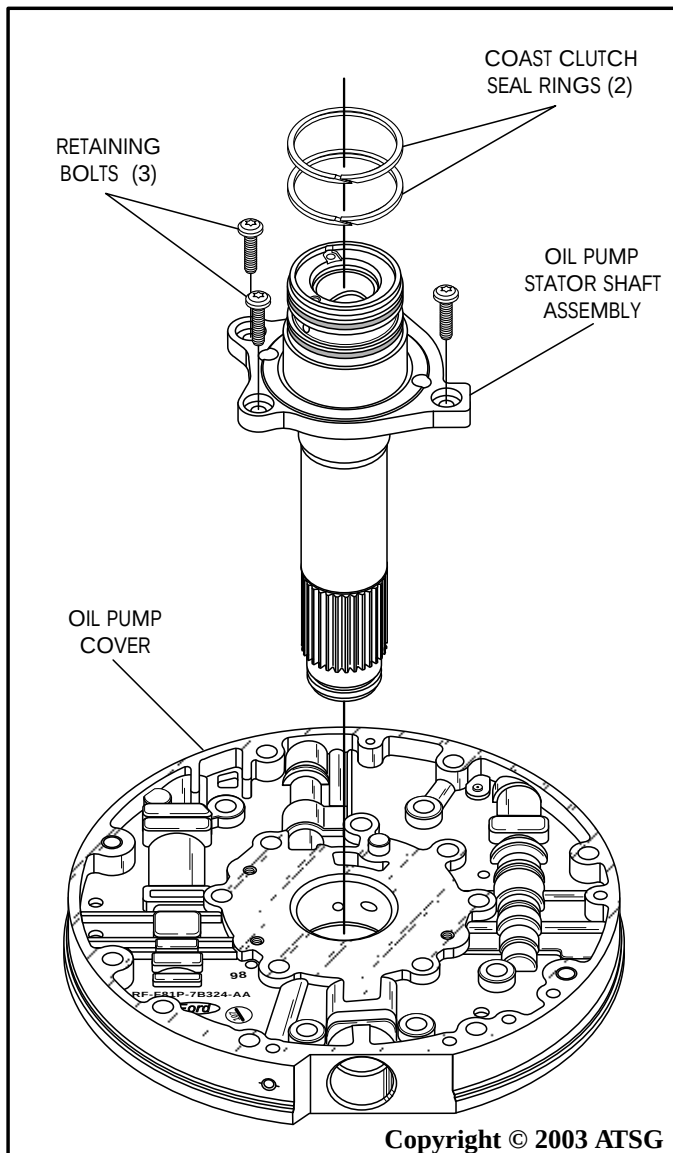
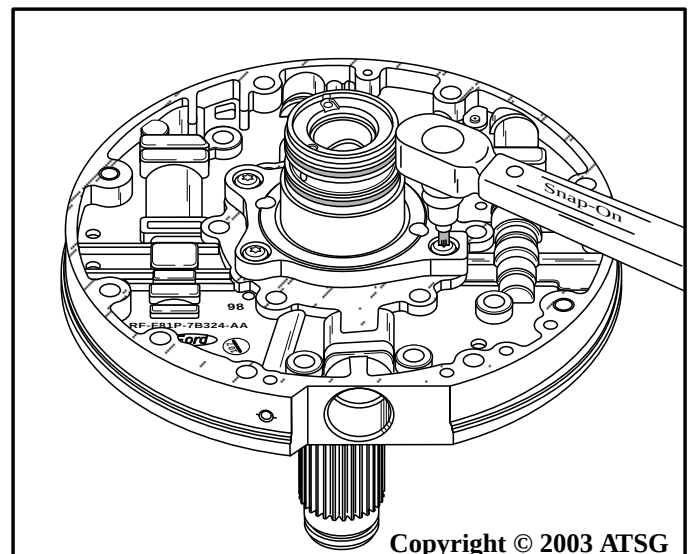

Figure 165
Figure 166
12. Install the stator shaft assembly into the pump cover, as shown in Figure 165, and torque the 3 retaining bolts to 9-11 N·m (80-100 in.lb.), as shown in Figure 166.
13. Install the two coast clutch sealing rings into their grooves in the stator shaft assembly, as shown in Figure 165.